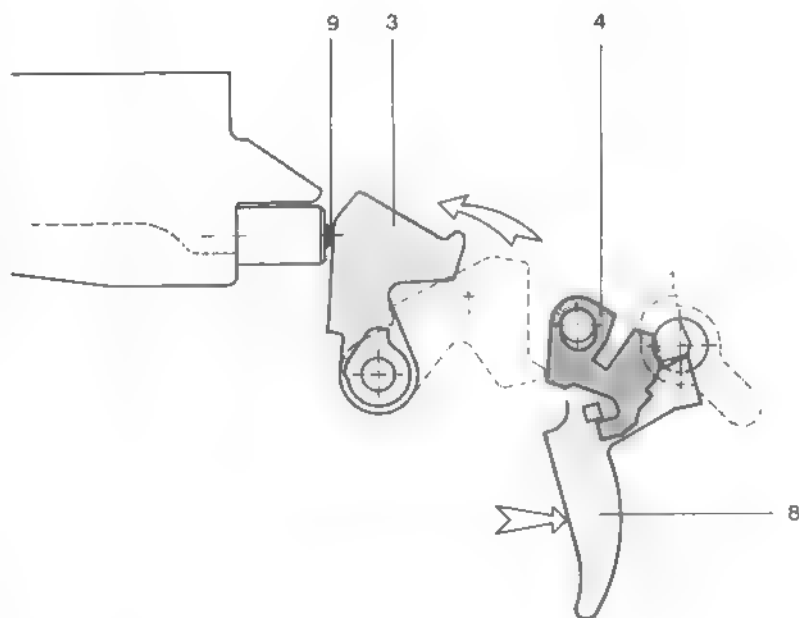

Figure 63
The hammer (3) is released and strikes forward (refer to figure 63).